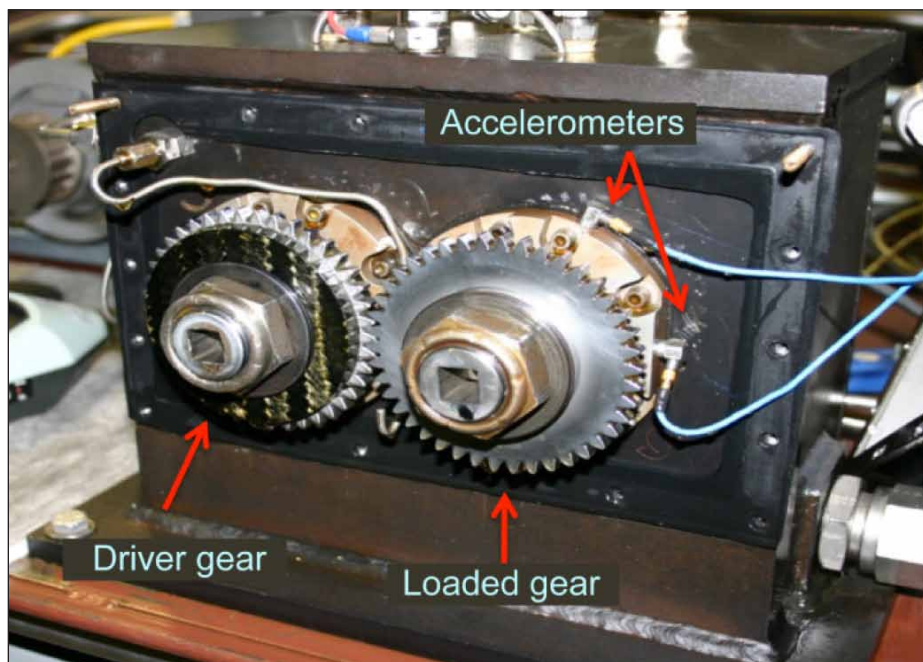

Figure 10 Test facility shown with cover removed.
The dynamic tests for noise and vibration were conducted with four different gear arrangements, at four different rotational speeds, and four different levels of load. The gears were installed in the test rig in the following configurations: (1) all-steel both sides; (2) hybrid gear left side; all-steel gear right side; (3) all-steel gear left side, hybrid gear right side; and (4) hybrid gear, both sides. When the facility is operating, the left-side gear is the driving gear and the right-side is the driven gear. All vibration measurements were made on the driven side support bearing housing (Fig. 10).